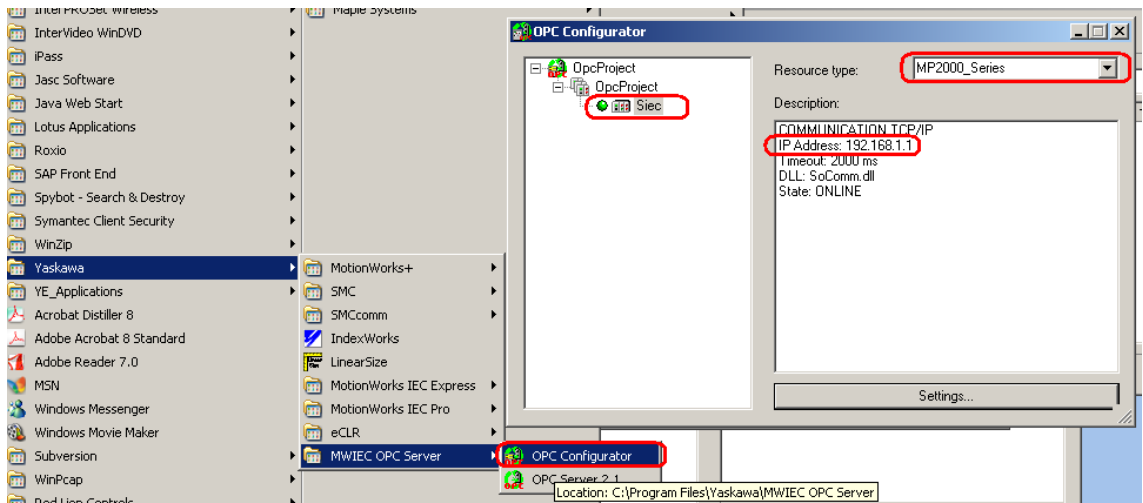

Figure 1: OPC configurator settings
Step 1: Set the OPC configurator with the controller settings as shown in figure 1.